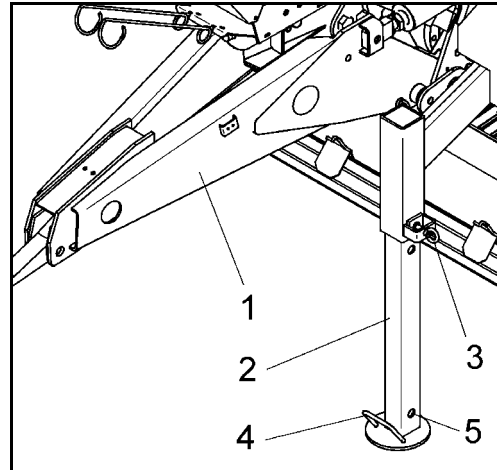

Fig. 54
4. Check whether the bolt has properly engaged into the borehole and properly locks the supporting leg in its support position (Fig. 54).